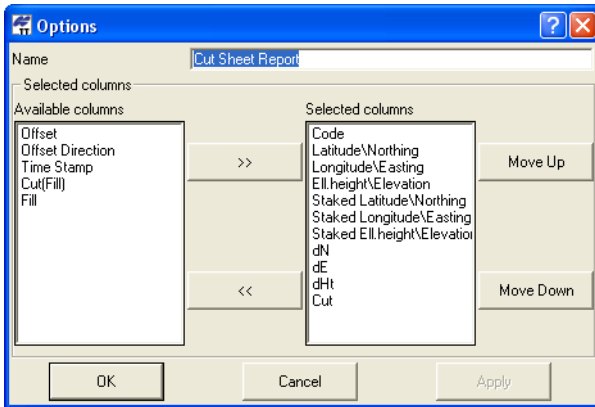

Figure 7-18. Item Options – Staked Points Report
- Cut Sheet Report – edit the name select parameters to include or exclude using the move right/move left buttons, order the display of parameters using the Move Up/Move Down buttons, and click **OK** (Figure 7-18 on page 7-14).
- Misnamed Auto topo Rovers Report – edit the name and click **OK** (Figure 7-18).